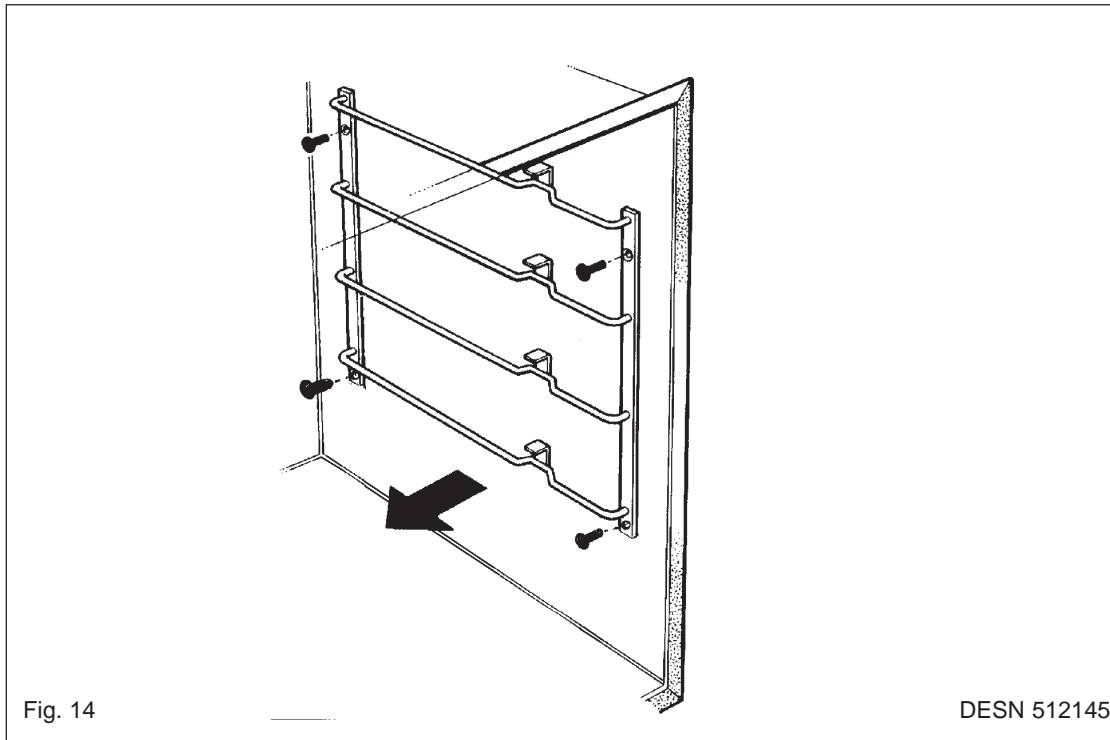

Fig. 14
3. Remove (7) back panel screws.
G. TO REMOVE OVEN AND GRILL LINERS - SEE FIG. 14